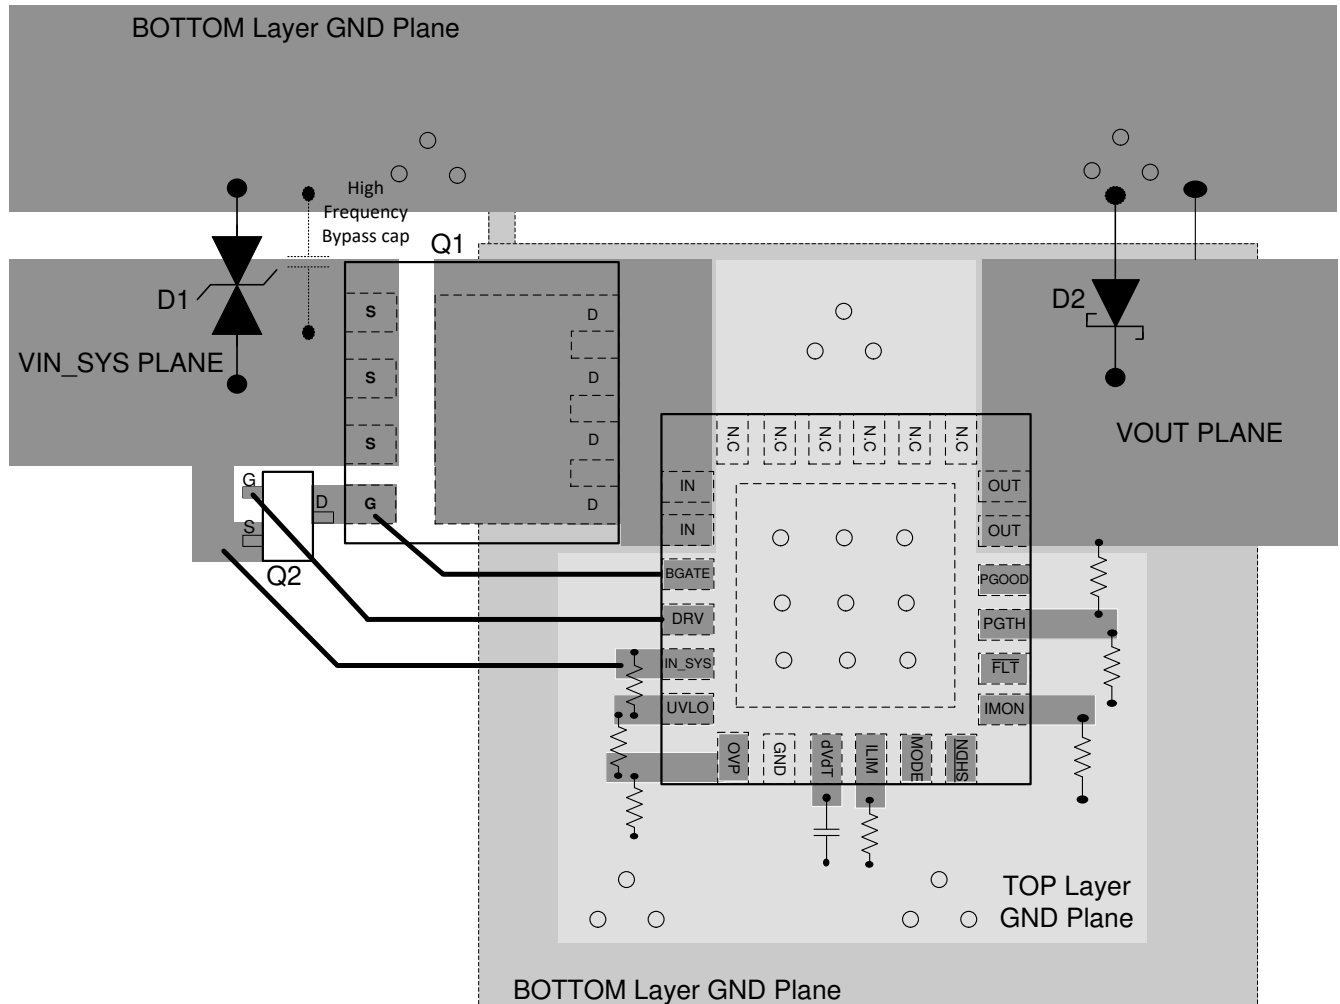
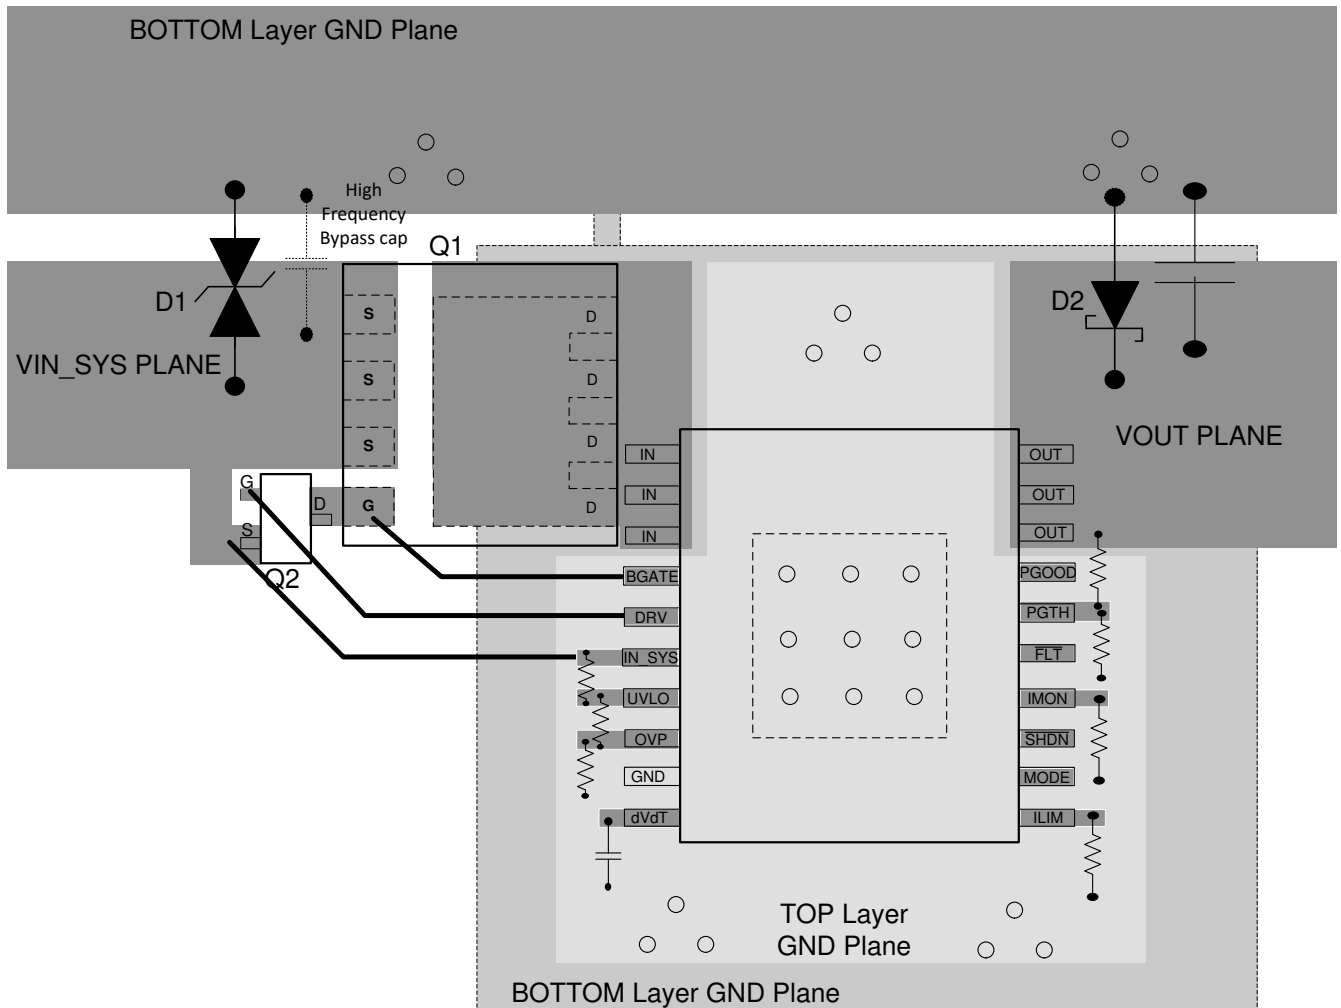

图 12-1. Typical PCB Layout Example With QFN Package With a 2 Layer PCB
图 12-2. Typical PCB Layout Example With HTSSOP Package With a 2 Layer PCB
- The external FET Q1 should be placed with DRAIN close to the  $V_{\text{IN}}$  pins of the IC and connected through a plane. The fast pull down switch Q2 DRAIN and SOURCE should be placed very close to the GATE and SOURCE terminals of Q1 with very short loop. See Figure 12-1 and Figure 12-2 for a typical PCB layout example.